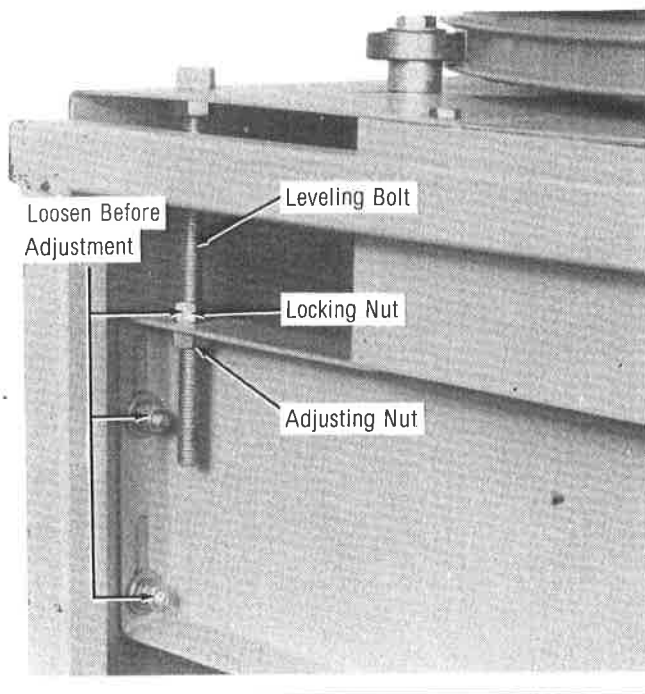

Figure 11 Blade Height Adjustment
1. Loosen the eight bolts that secure the rotary-blade/carriage assembly to the sides of the chopper housing (PTO model) or housing/frame (self-powered model). Figures 11 and 12 show rear adjusting points. Front adjusting points are similar in both models.